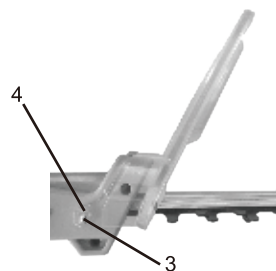

Fig. 7b
2. Thread two self-tapping screw (3) through the hand guard and into the matching holes (4) in each side of the blade mount (Fig 7b).